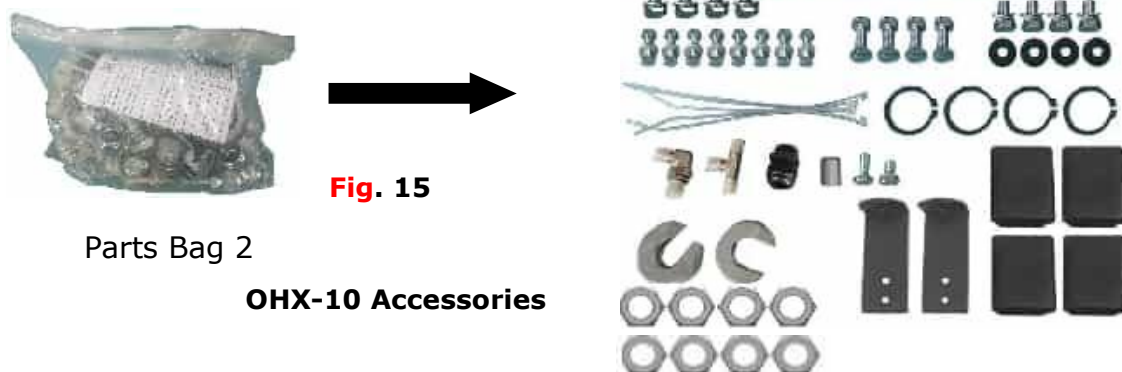

Fig. 15
6. Open the Parts Bag 2 of parts and check the parts according to parts bag list (See Fig. 15 & 16).